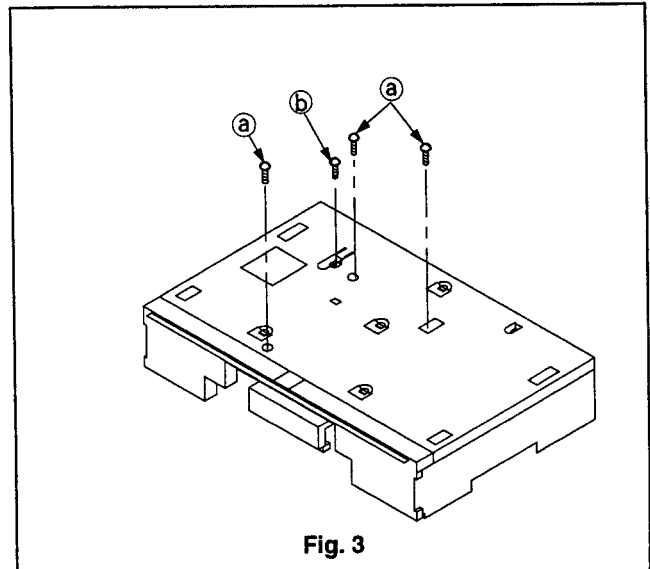

Fig. 3
3. Remove the three screws (a) and the screw (b) shown in Fig. 3.